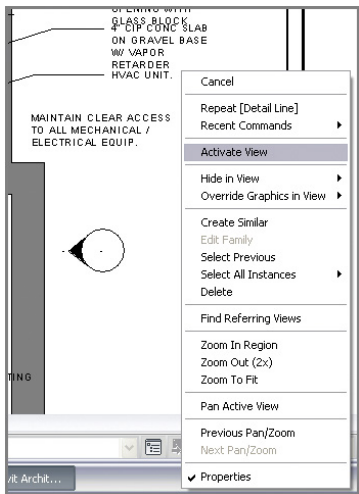

FIGURE 12.23 Activating the view
1. Right-click the plan view, and choose Activate View from the context menu (Figure 12.23).